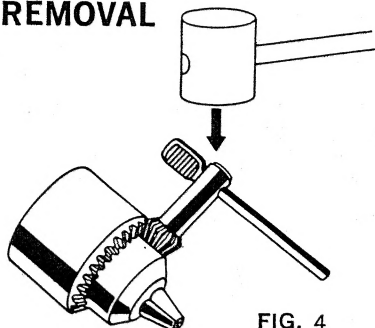

FIG. 4
1. Place chuck key in chuck as shown in Figure 4. Using a wooden mallet or similar object, strike key sharply in a CLOCKWISE direction. This will loosen screw inside chuck (Figure 4).